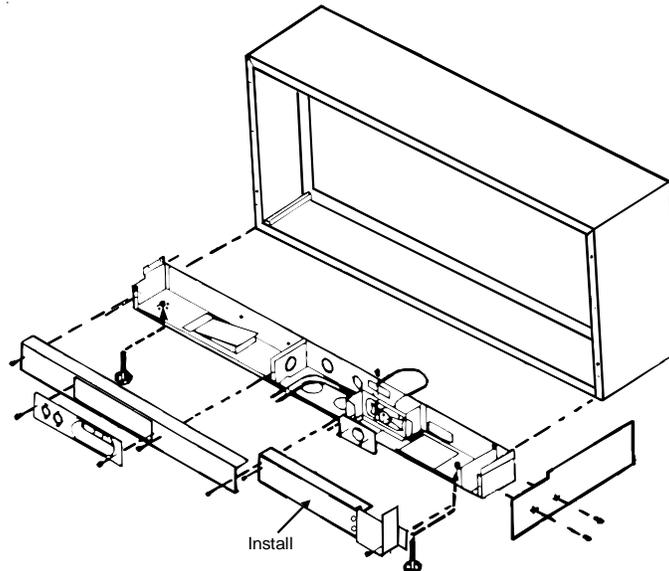

Figure 2
4. Place the supplied subbase extension cover on the subbase in the same location that the old right hand cover was removed. Secure the subbase extension cover to the subbase using the screws removed in Step 1. (Figure 2)